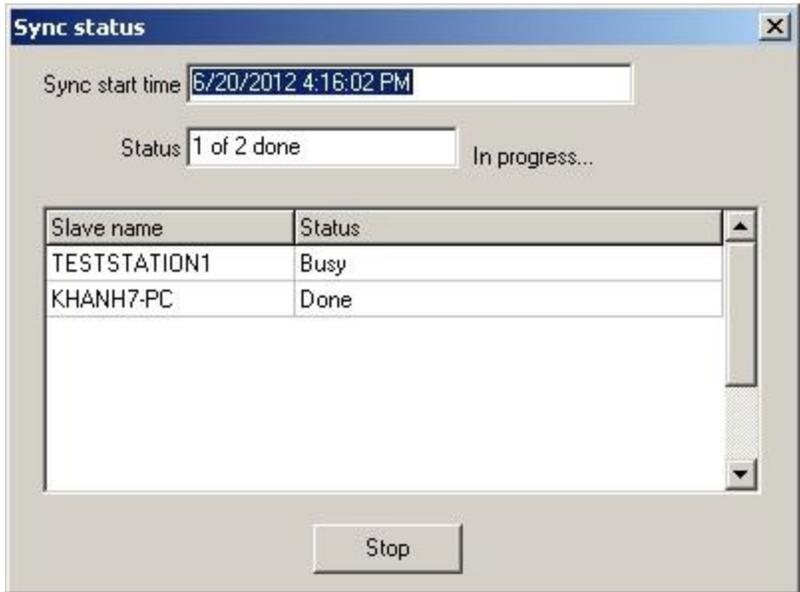

Figure 47
4. If there is any event (Calls, Low-batteries, Faults...) on a slave when sync starts, you will see a "Busy" status (Figure 47). In this case, you need to clear the event on the slave. Synchronization on a slave will resume quickly after all the events are cleared (Figure 48).